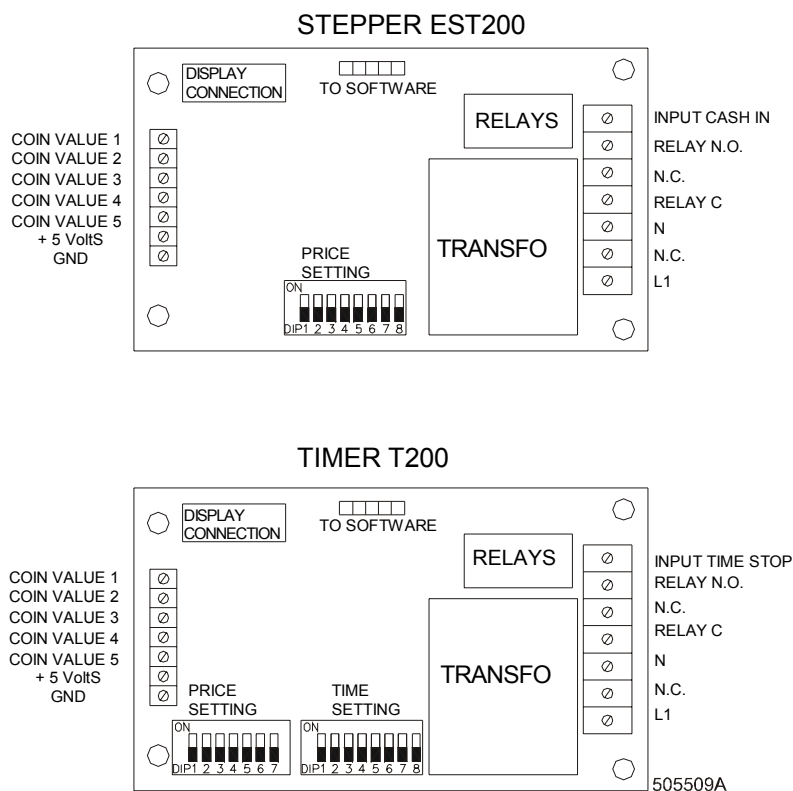

Fig.5.1. Coin counter with LED display, code PRI347006060
2. Connect the coin switches to the board (fig.5.1., COIN VALUE 1,2, ..., +5 Volts, GND) (See chapter "Connection of coin switches").
There are five coin inputs available and have *standard* the following coin values (see Fig.5.1.):
Each switch of the PRICE SETTING (See fig. 5.1.)has a certain value, as mentioned in the following table: